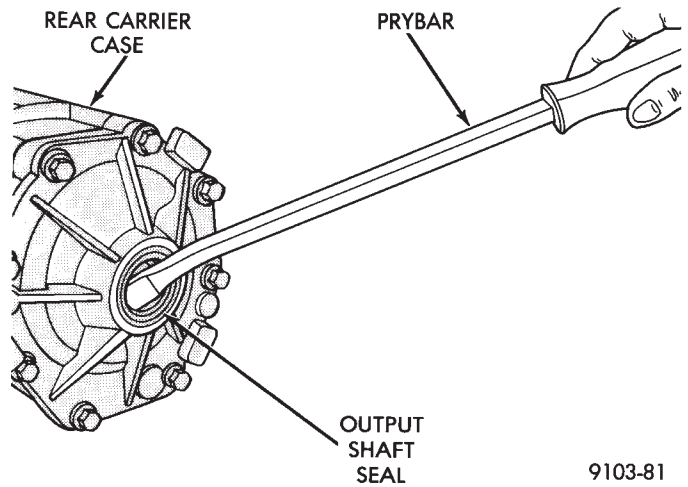

Fig. 5 Seal Removal
(4) Using a pry bar, pry out oil seal (Fig. 5), being careful not to damage race.